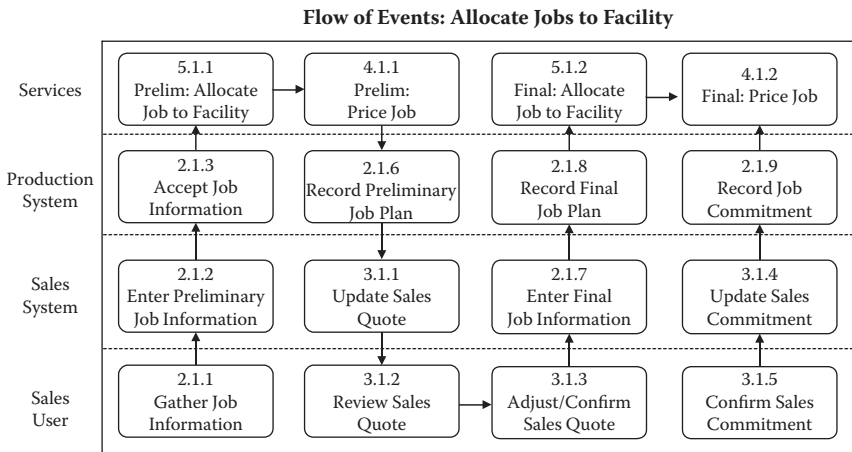

FIGURE 22
I can illustrate by relaying the conversation about "allocate jobs to facilities and equipment." This was a relatively early step in the pompom, and it had two flavors. The first happened prior to the final quotation to the customer: We had to know, to some degree of certainty, where and how we planned to fulfill an order before we quoted. This was to ensure we had capacity and capability. It happened again after the customer agreed to the quotation, including consideration of any changes the customer had requested between the first quote and the acceptance. I've included the basic flow from the requirements document in Figure 22; note steps 5.1.1 and 5.1.2 in the top row.
This particular requirement was needed in support of the service that would allocate work to facilities and equipment, item 5.1 from Figure 22. As the GRI analyst started down the list, Tabitha, the Product Management technical architect, and Tammy Sills and Steve Tolbert, the design engineers, began to ask clarifying questions:
The use case sought to describe how the users—in this instance, Ken and Phyllis and the group that had been in the requirements session—wanted the system to behave. It began by identifying the “actors” involved, such as the operations manager and each system involved. It then defined any pre-conditions that must be met before the activity started, what it meant for the activity to be completed, and main elements in the scenario. Cremins also included interaction diagrams showing how the scenario flowed—such as the one I’ve included in Figure 22, which is from this use case.
Ken and Phyllis continued to walk through the use case, using a laser pointer against the document projected on the wall screen. The bulk of the explanation was of the flow shown in Figure 22. I learned some troubling things from the caveats in the document itself and the questions. These included: